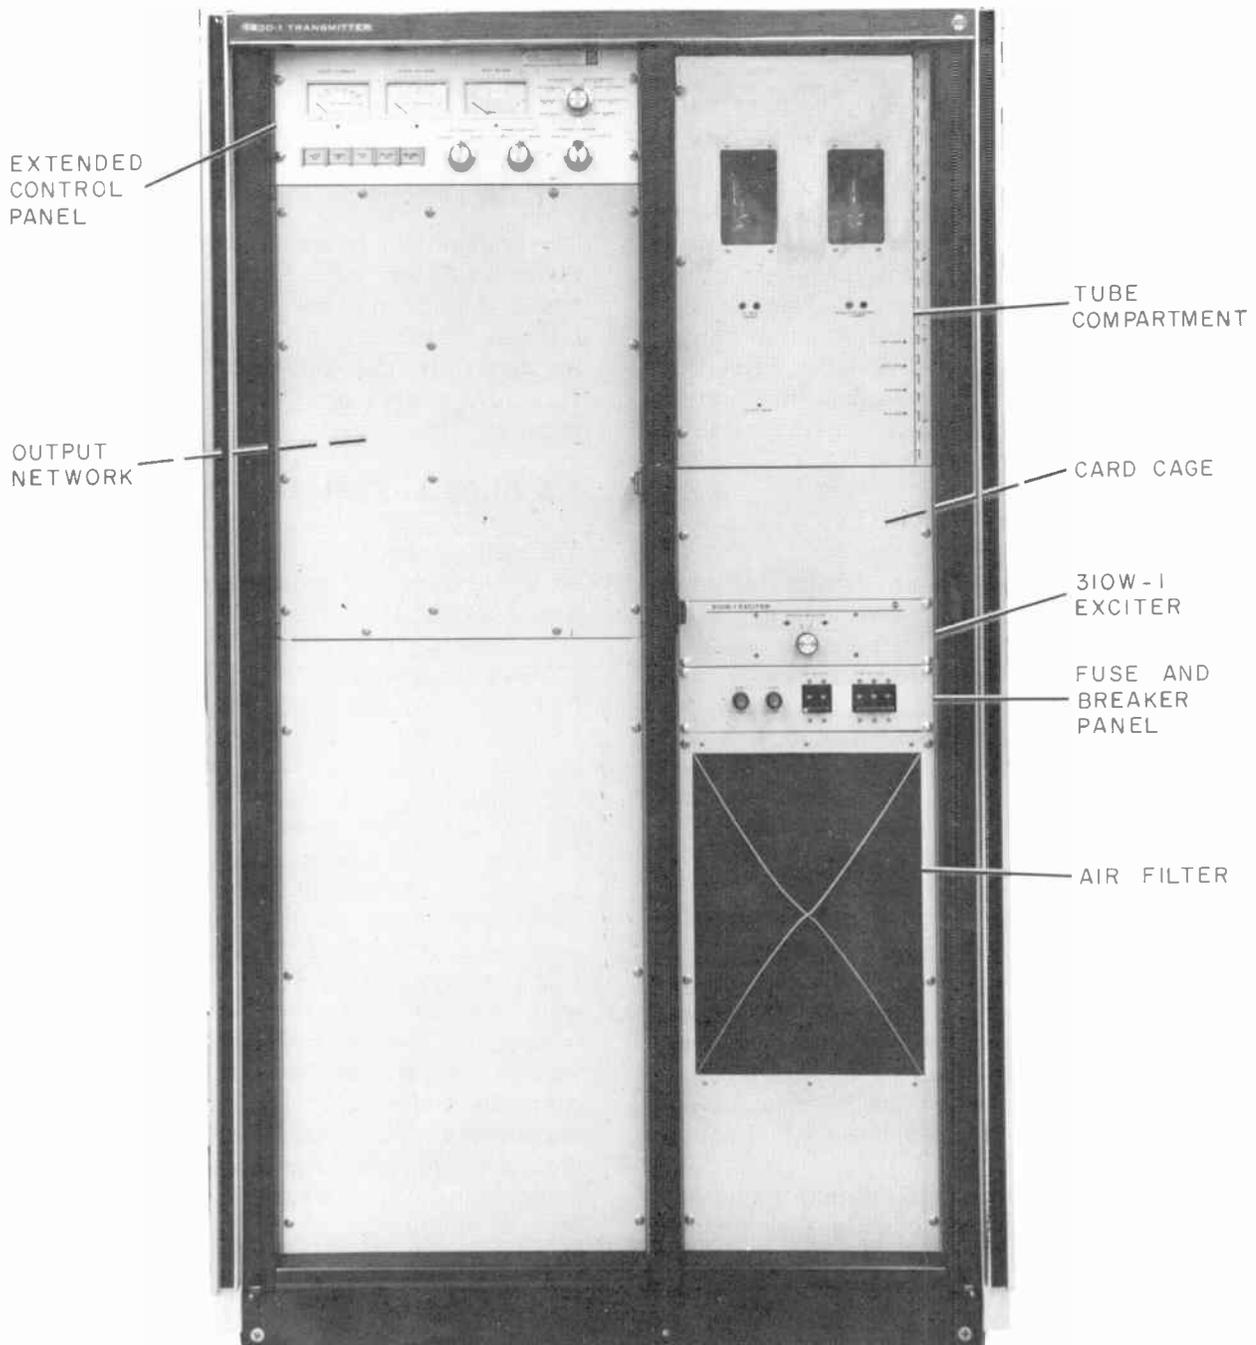

Figure 1-2. 820D-1 AM Broadcast Transmitter (Doors Removed).
The transmitter is divided into two major sections (figure 1-2). The left section contains the extended control panel, the output network, the screen supply, and the high-voltage power supply. The right section contains the power amplifier, modulator, rf driver, audio amplifier, control circuits, 310W-1 rf exciter, low-voltage power supplies, modulator transformer, and the modulator reactor. The output network is housed in a separate aluminum cabinet with a removable front cover. Access to the modulator, power amplifier, and rf driver is by a hinged access panel. A separate access is provided for the circuits in the card cage. Access to remaining circuits is provided by
- m. Replace the top cover of the 310W-1 and install the 310W-1 in the right section of the transmitter (figure 1-2).